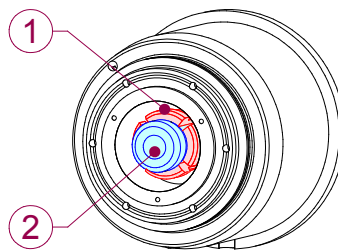

Figure 7
- apply the grease in the space between the segments of the collet and the ejector (Figure 7) with the help of a thin clean plastic tool;